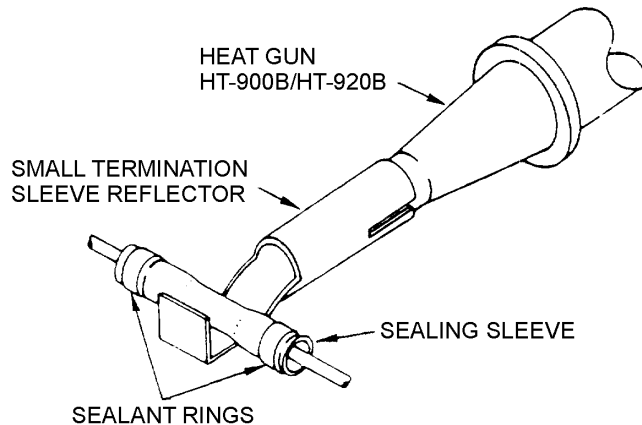

Figure 68. Splice Sealing
76. **Inspection Gage.** The inspection gage is a Go/No Go gage used to ensure accurate crimps. The gage ends are color coded green for Go, red for No Go (Figure 68).
87. **Inspection Gage.** The inspection gage is a Go/No Go gage used to ensure accurate crimps. The gage ends are color coded green for Go, red for No Go as illustrated (Figure 68).